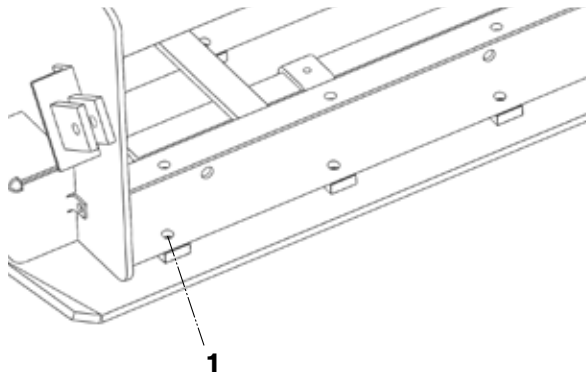

Figure 5-8. Wear Plate Mounting Bolts
3. Remove the twenty-four (24) bolts (**Figure 5-8,1**) holding wear plate to screed frame.